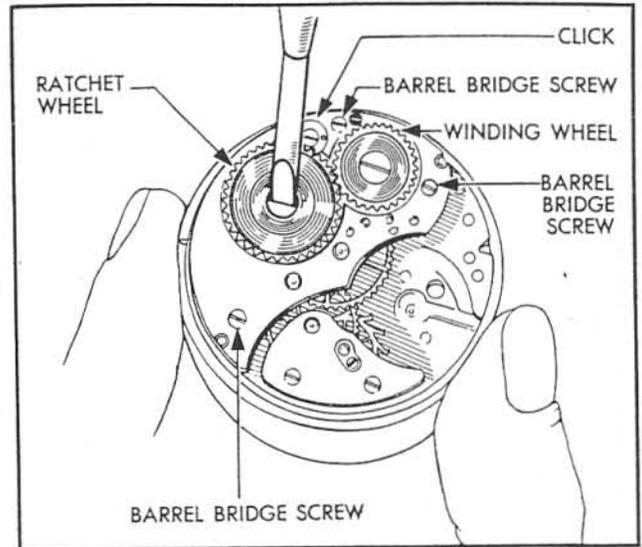

Figure 18—Removing Ratchet Wheel Screws
(8) **BARREL BRIDGE.**—To remove the barrel bridge, take off the ratchet wheel (see figure 18) and the upper winding wheel by removing their screws.